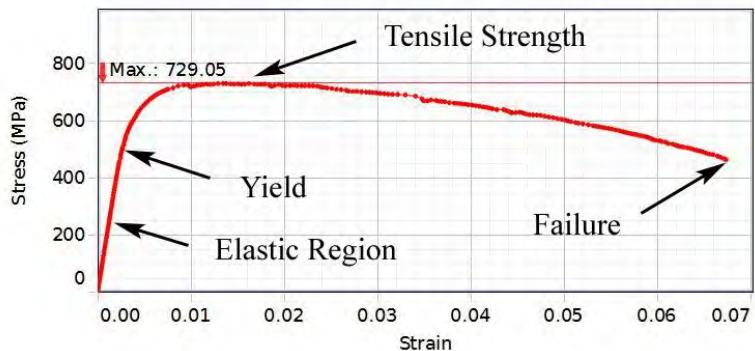

Figure 2: A typical stress-strain curve, with points of interest labeled
**Uniform Plastic Deformation** – When deformed beyond its Yield Strength (see Figure 2), further deformation is permanent. When the load is removed, the specimen will be longer than it was originally.